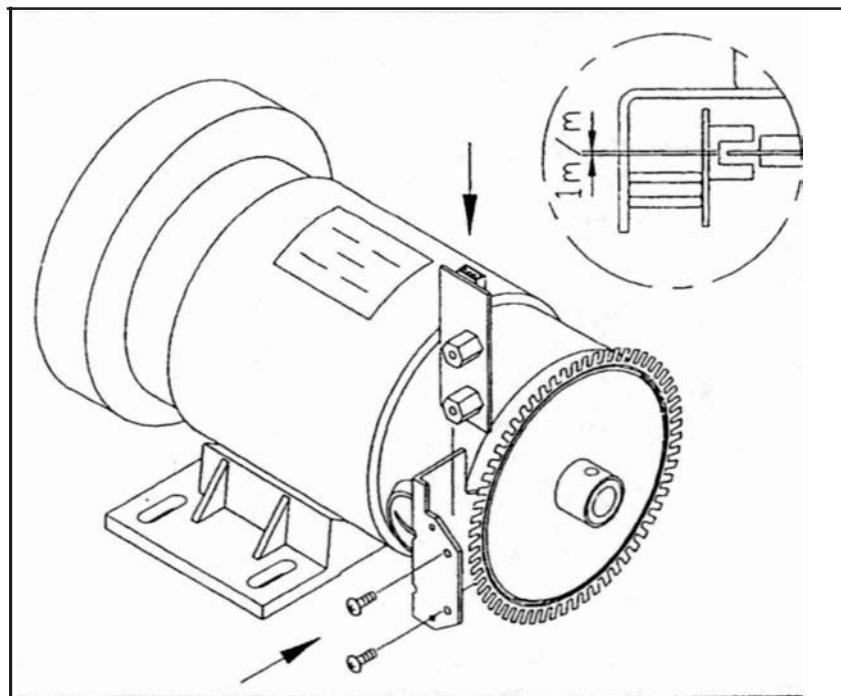

Fig.4
5. Place new-style optical switch and hold it with two PH screws, but do not fasten it yet. Also keep proper space between optical switch and tachometer wheel. (see Fig.4)